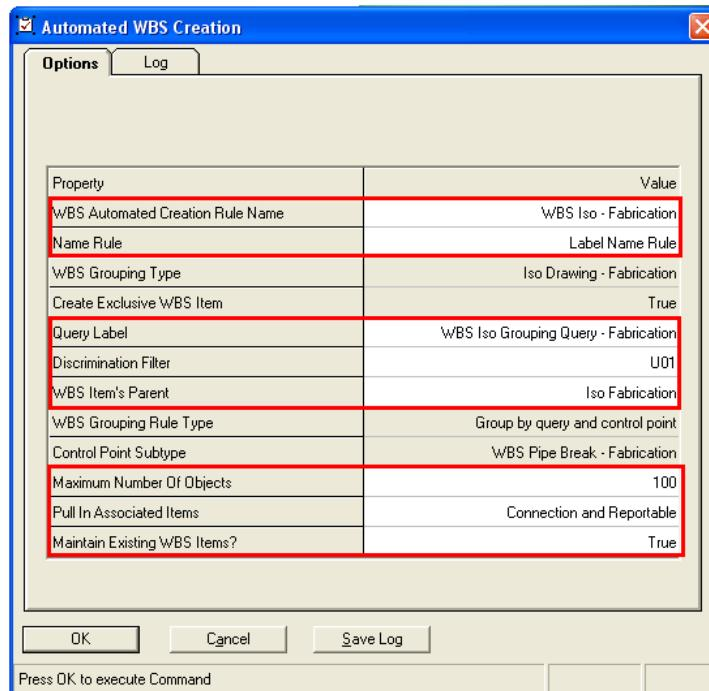

Figure 33: Automated WBS Creation Dialog Box
35. The **Automated WBS Creation** dialog box appears. Set the following specifications in this dialog box, as shown in Figure 33, and click **OK**: